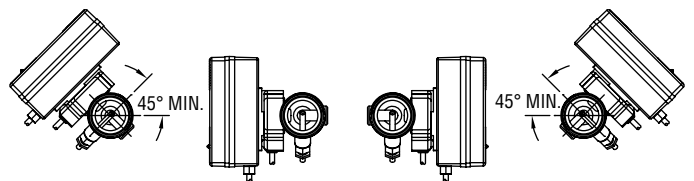

Figure 4: Mounting Rotation
3. If the meter is installed on the horizontal pipe, it must be oriented at least 45° from horizontal (see Figure 4). If the meter's face is horizontal, then debris accumulation can increase inaccuracies (see figure 5 for correct and incorrect orientations). There is no special requirement when installing on the vertical pipe work.